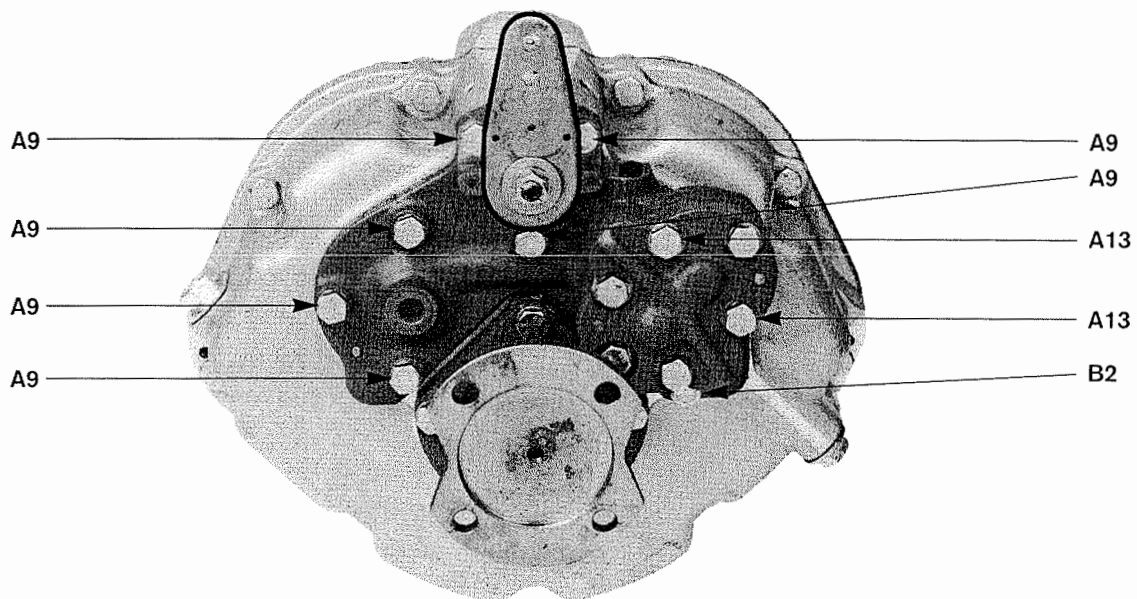

Fig. 11. Removal of bolts for emergency operation
1. Undo the 9 hexagon bolts securing the rear manifold to the gearcase and, taking care not to lose the small socket wrench which is located inside it, remove the manifold complete with oil pump. (See Fig. 11 Page 19)
4. Remove the nine bolts securing the pump adaptor and manifold to the gearbox (see fig. 11) and withdraw the unit from the gearbox. Take care not to damage the gaskets or lose the 3mm A/F socket wrench located in the pump adaptor. If the spacer and 'O' ring (C1 and C12) have remained in the pump adaptor and manifold carefully remove these items.